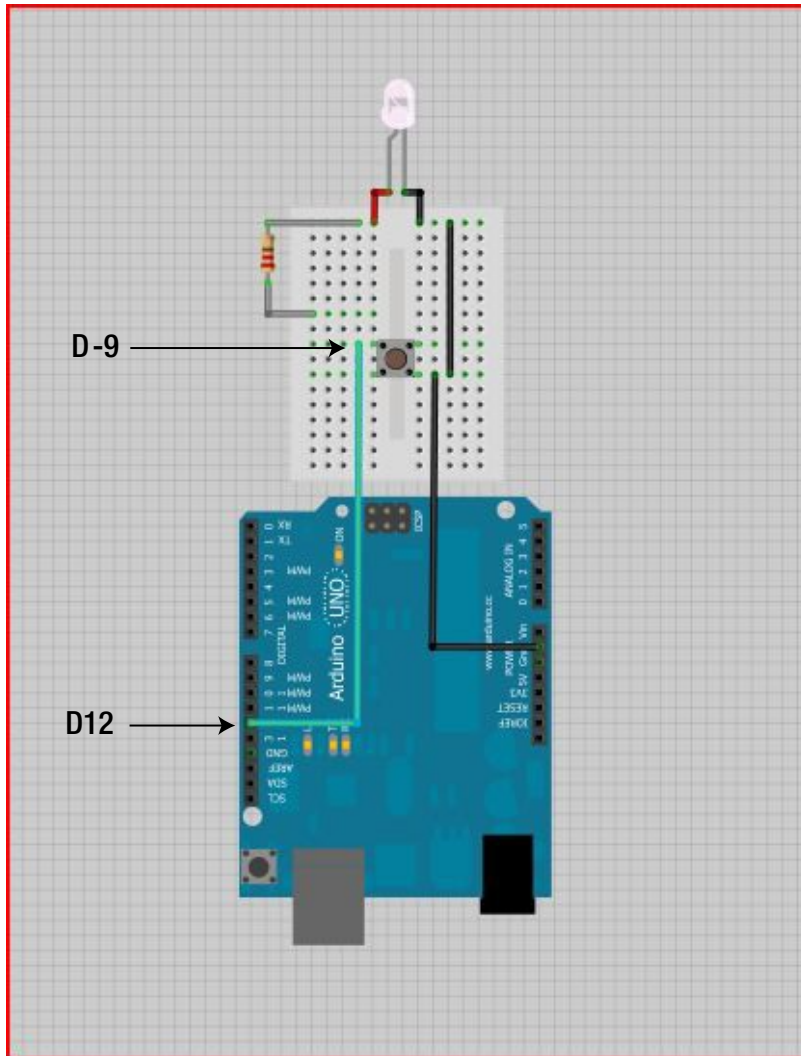

Figure 7-10. Attach push button to digital pin 12 on the Arduino
7. Insert one end of another jumper wire (we used red) into digital pin 12 (D12) on the Arduino and the other end of the jumper wire into D-9 on the mini-breadboard. Figure 7-10 illustrates this process.